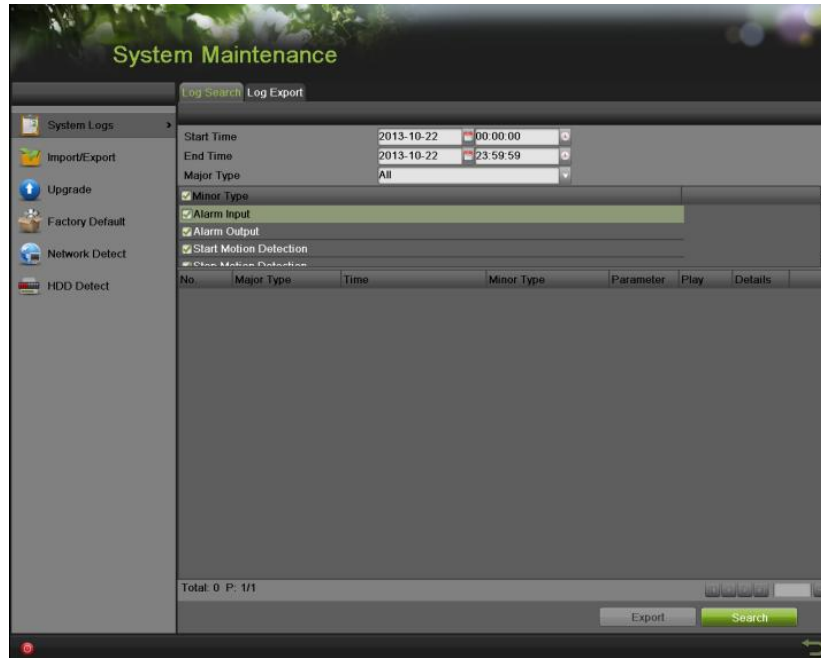

Figure 173 System Logs Menu
1. Enter the System Logs menu, shown in Figure 173 by going to Menu > Maintenance > System Logs.